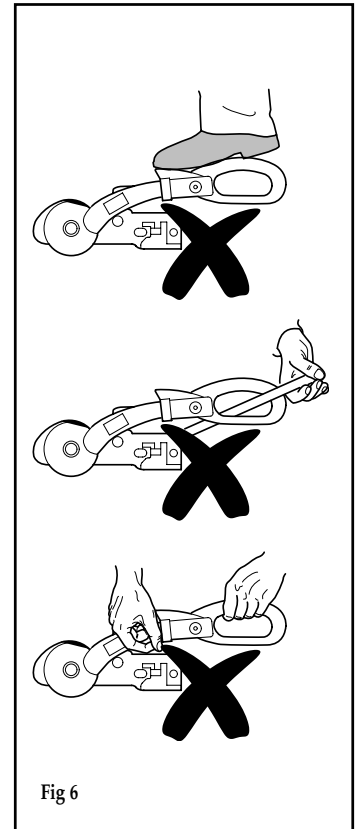

Fig 6
down by hand force only DO NOT use your foot or an extension bar, this will damage the components (Fig. 6).
- 3) When opening or closing the stabiliser lever, please ensure your hand does not touch the coupling handle - you may accidentally trap your fingers! (Fig. 6).